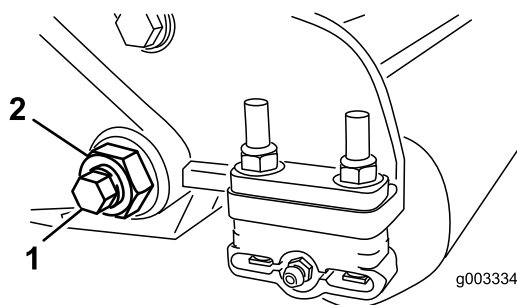
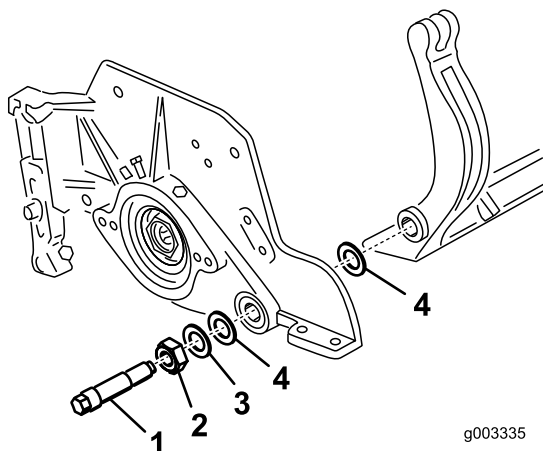

Figure 30
Figure 31
3. On each side of the machine, loosen the lock nut securing the bedbar bolt (Figure 30).
4. Remove each bedbar bolt allowing bedbar to be pulled downward and removed from machine bolt (Figure 30). Account for 2 nylon and 1 stamped steel washers on each end of bedbar (Figure 31).
2. Secure bedbar to each side plate with bedbar bolts (nuts on bolts) and 6 washers. A nylon washer is to be positioned on each side of side plate boss. Place a steel washer outside each of the nylon washers (Figure 31). Torque bedbar bolts to 27-33 ft.-lb. Tighten locknuts until the outside steel washer stops rotating and end play is removed but do not overtighten or deflect side plates. Washers on inside may have a gap.